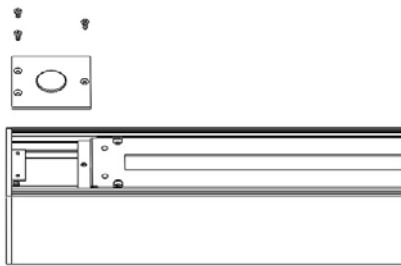

Fig. 10
2. Remove three #6 flat head screws securing the power inlet plate on both sides of fixture. (Fig. 10)